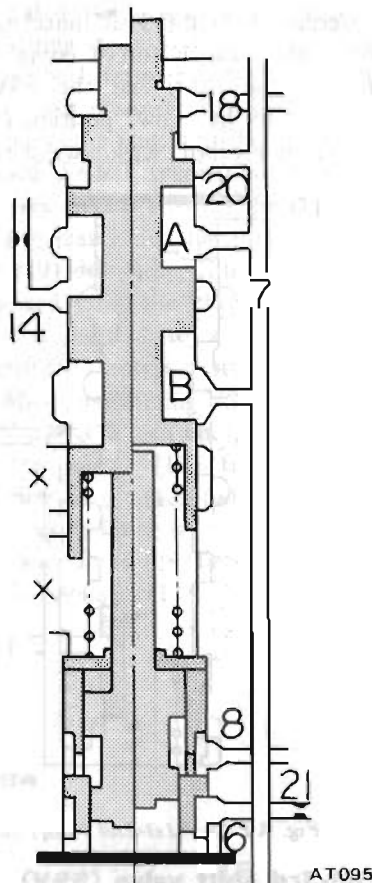

Fig. AT-10 Pressure regulator valve
The oil from the oil pump is applied to the ring-shaped area through orifice (20). As a result, the PRV is depressed downward, and moves from port (7) up to such extent that the space to the next drain port (marked with "X" in Figure AT-10) opens slightly. Thus, the line pressure (7) is balanced with the spring force, thereby balancing the PRV. In this operation, the space from port (7) to the subsequent converter oil pressure (14) circuit has also been opened. As a result, the converter is filled with pressurized oil in circuit (14), and this oil is further used for lubrication of the rear unit. Moreover, part of the oil is branched and used for lubrication of the front unit for the front and rear clutches.